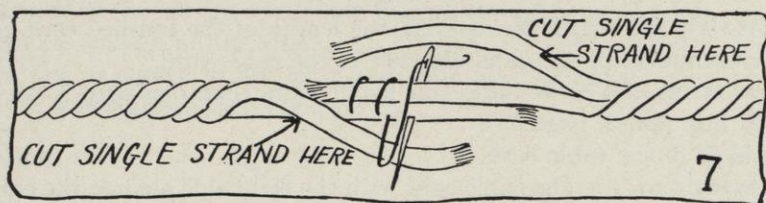

FIG. 7.
- c. Join the bias strips and press the seams flat if more than one strip is needed (see Job 15, Figures 7 A, 7 B, and 8, page 65).
- Untwist one strand of the cord at both ends (see Figure 7).
- Cut off the loose strand, on each end of the cord (see Figure 7). Cut part of each end of the cord away so that, when it is sewed up again, the joining will be no thicker than the cord itself.
- Sew the remaining strands of the cord together very firmly with coarse thread (see Figure 7).
- Join the fabric of which the cord is made, reading and following Precaution VII and Section *g* (1), (page 94).
- (1) Hold the center of the curved strip of rice net, willow, or crinoline in your left hand, with the larger edge near you.
- (2) Hold the headsize band in your right hand, with the wired edge down.
- (3) Put the center of the smaller edge of the strip of material inside the headsize band, on the pencil mark indicating front.
- (4) Pin the smaller edge to the headsize band in front, on the outside of the headsize band, as near the wire as you can. *Be sure to look back at Figure 7 of Job 9 (page 39).*